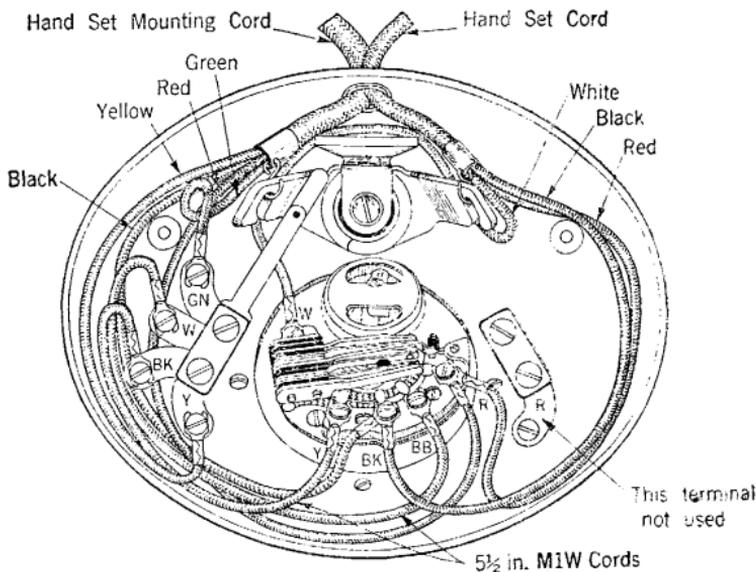
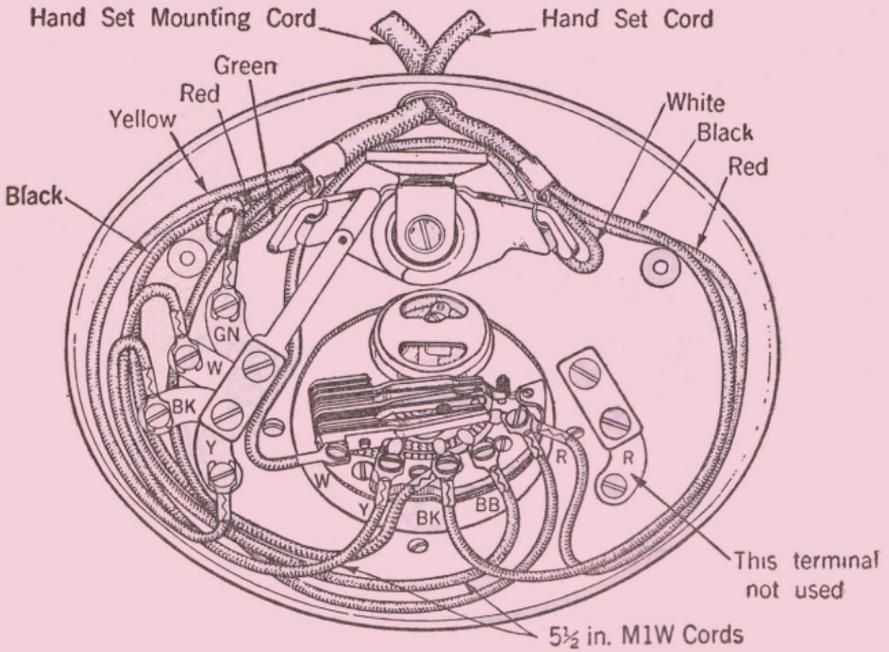

Fig. 11—D1 Type Hand Set Mounting.
Fig. 29—4- and 5-Twin Contact Dials
1.05 The cording of sets having single contact 4- and 5-type dials should be in accordance with Figs. 11 to 28 inclusive. The same information, other than dial cording, applies to sets with twin contact 4- and 5-type dials as well as 6-type dials. Typical cording for these latter dials is shown in Figs. 29 and 30. The same general principles of cording should be followed in the case of sets having a different number of dial conductors.